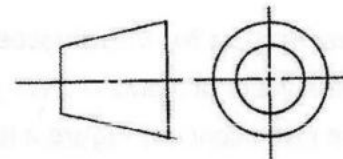

Figure 1
- 1** Orthographic views of a BRACKET are shown in First Angle Projection in **Figure 1**. Sketch freehand and in good proportion, a pictorial view of the bracket with 'C' in the foreground of the view.